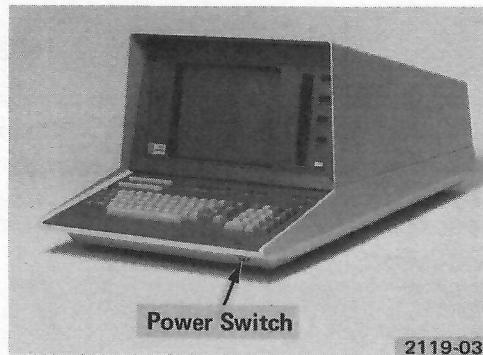

Figure 2-1. Power Switch Location.
1. Flip the power switch to the OFF position. The switch location is shown in Figure 2-1.